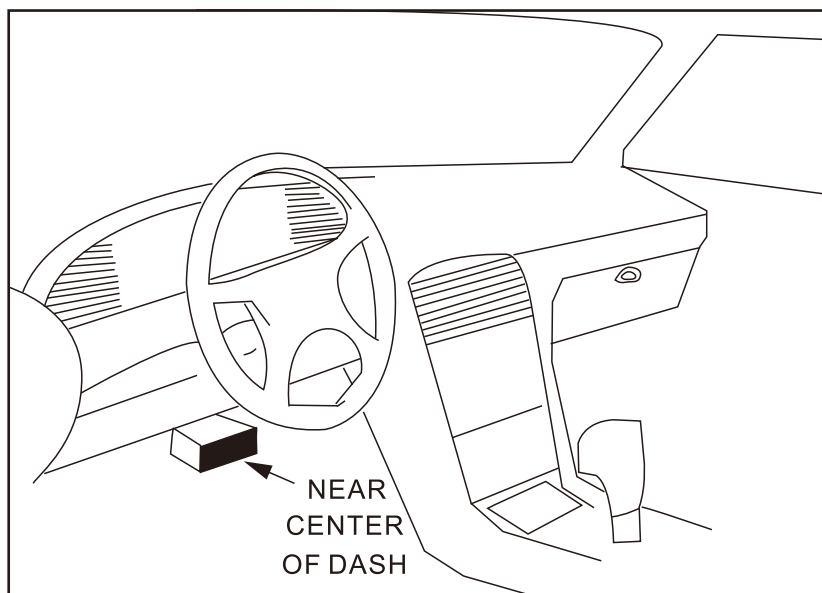

Figure 3-1
- 2) Locate the vehicle's DLC socket: Refer to Fig. 3-1 for the location. If no DLC is found, please refer to Automobile Repair Manual.